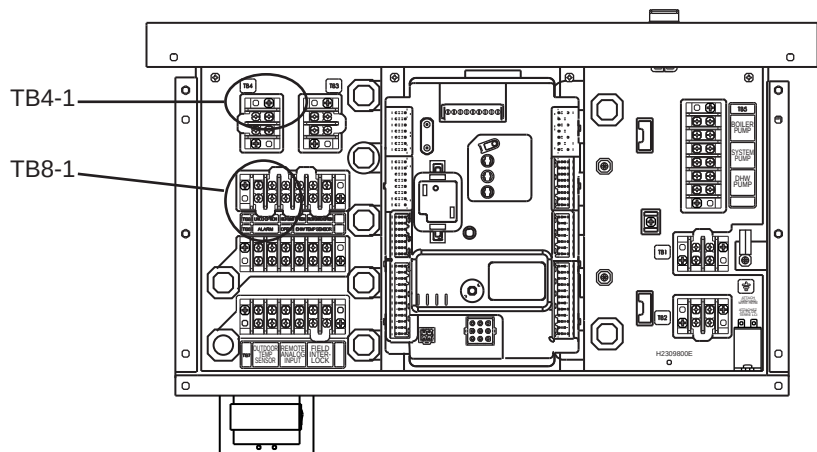

Fig. B1-5 - Check for 24V AC at TB8-1
1. See Fig. B1-5. If 24V AC is present here, this